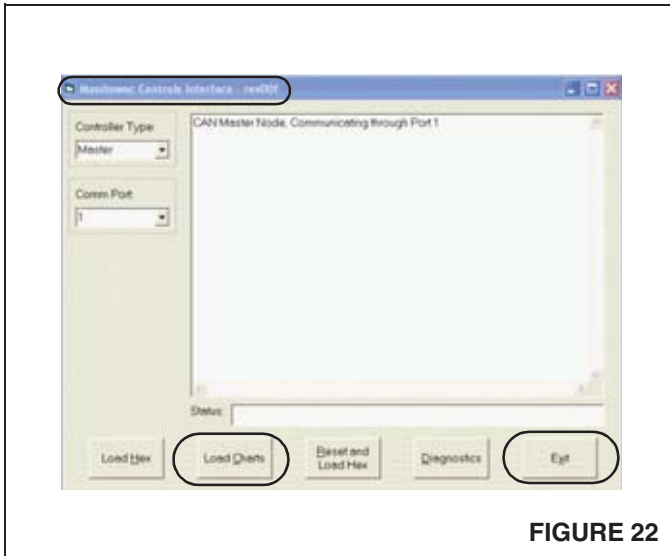

FIGURE 22
13. Return to the **Maniwooc Controls Interface - rev00f or newer** screen (see Figure 22).
14. Select and press **Load Charts** button in lower left (see Figure 22). A screen will drop down called **Open**.
18. Click the **Exit** button, lower right corner on control interface screen (see Figure 22).